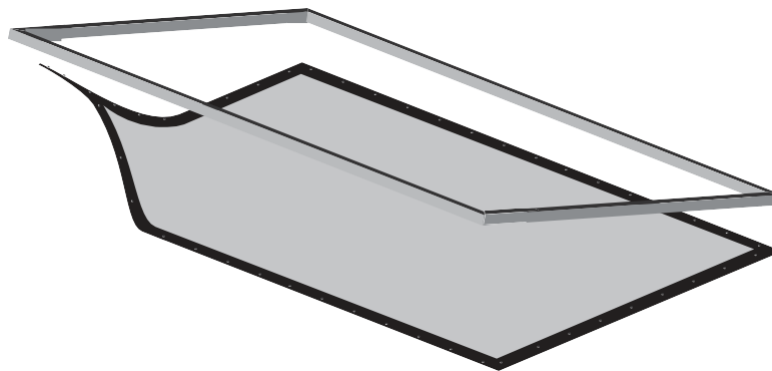

Figure 14: Attaching Top Corner Snaps
5. Starting with the snaps on the top corners and then horizontally along the top while lifting the frame with one hand, snap the screen into the frame. Gently allow the screen to stretch onto the snaps. Do not jerk, wrinkle, or crease the screen material, as the material can be damaged (see Figure 14).